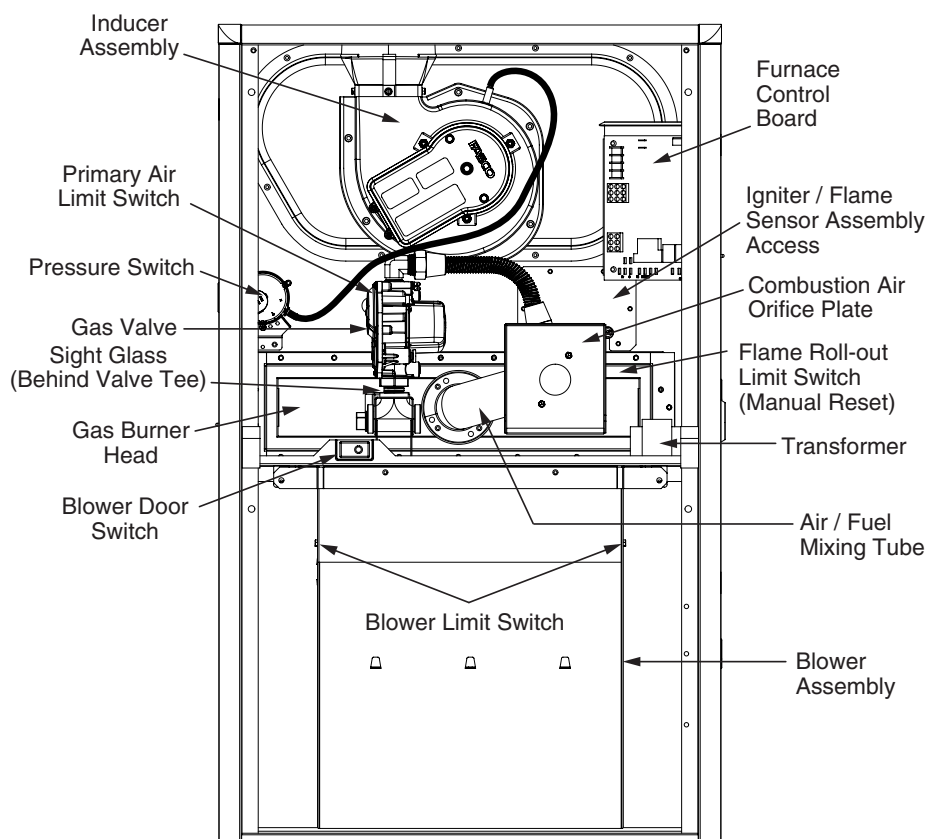

Figure 17. Component Locations
Cleaning of Flame Sensor - If the flame sensor is suspect for Loss of Flame fault code, the sensor can be cleaned to see if that remedies the issue. Follow steps 1 - 10. See Figure 17, (page 19) for component location.
- If the inducer blower is operating and items above have been verified, check the limit switch circuit and reset if necessary. See Figure 17, (page 19) for component location.
- If the furnace still doesn't operate, check the flame roll-out switch and reset if necessary. See Figure 17 for component location.
The descriptions below are various functional components that affect the operation and shutting down of this furnace. Some of these components and their locations are shown in Figure 17. If any component of the furnace must be replaced, use only factory authorized replacement parts specified in the Replacement Parts List.